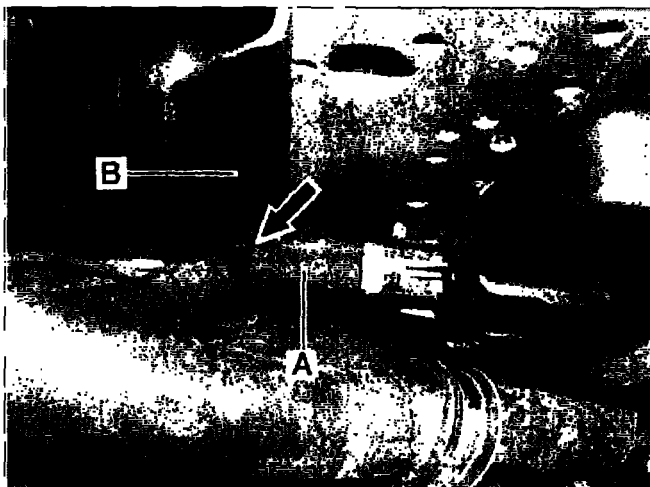
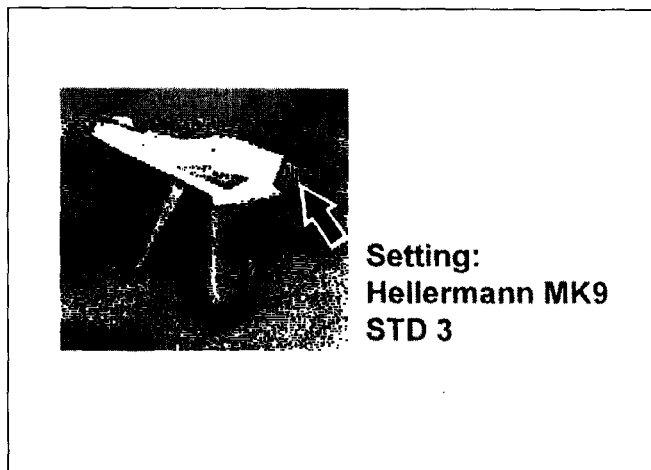

Figure 23
Figure 24
- Ensure cable tie (arrow, Figure 23) was properly affixed using cable tie pliers (Hellermann MK9; special tool number W 352 589 02 37 00); use **setting 3 on cable tie pliers**, as shown in Figure 24.
- Ensure wiring harness (A, Figure 23) touches the bracket (B, Figure 23) and is mounted there free of tension.